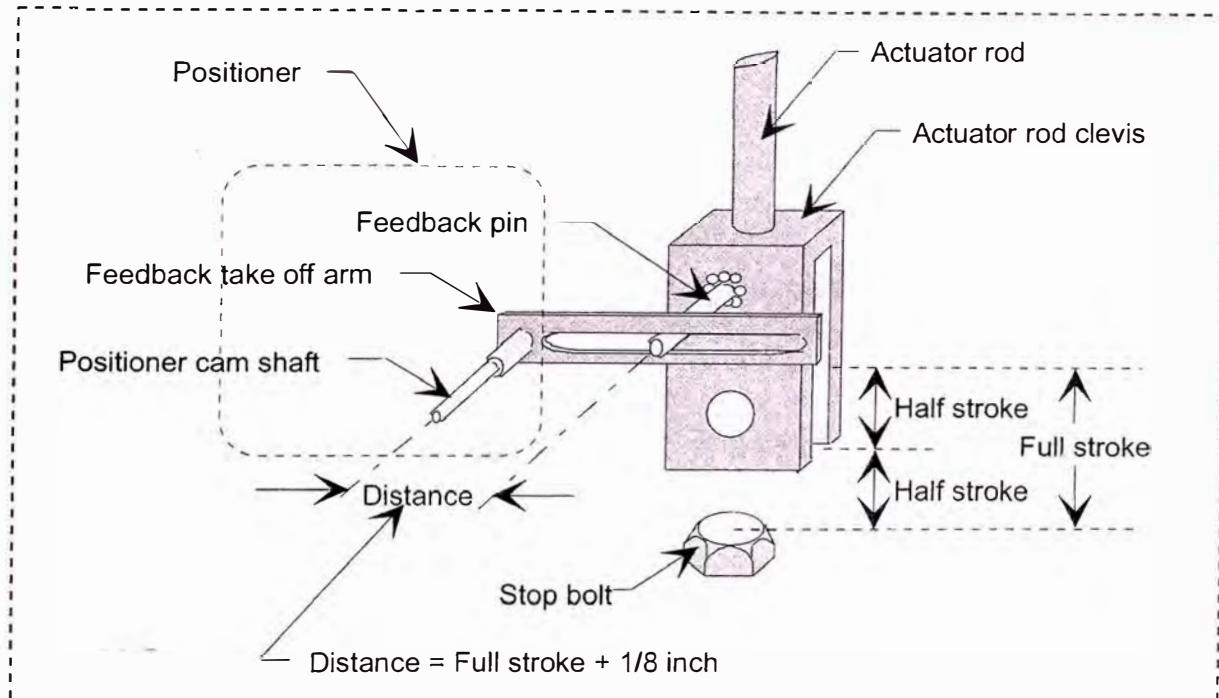

Figure 1-4. Setting rod clevis at half stroke for positioner locating
The desired end result condition after adjusting valve stroke is to have the positioner properly located with respect to the feed back pin on the actuator clevis. The positioner feed back cam will be properly installed and the IGV will be stroked for 4 mA, fully closed, @88° indicated and 20 mA, fully open, 0° indicated. The positioner is mounted by means of a bracket. Movement of the positioner on its bracket adjusts the location of the positioner feed back arm with respect to the actuator feed back pin. Figure 1-4 shows actuator rod clevis in the 12 mA or 1/2 full travel position for pin to arm adjustment. Perform the following steps to adjust the valve stroke.
2. Loosen the positioner bracket attachment bolts and move the positioner so that the feed back take off arm is horizontal, i.e. at 90° angle to actuator rod clevis. Once the positioner is horizontal the distance between the positioner cam shaft and the clevis feed back pin is adjusted. See Table 1-1. The distance between the shaft and pin should be Distance = Table 1-1 Full stroke + 1/8 inch (32 cm). [e.g. 7/8 = 3/4 + 1/8 or 8/8 = 7/8 + 1/8] See Figure 1-4